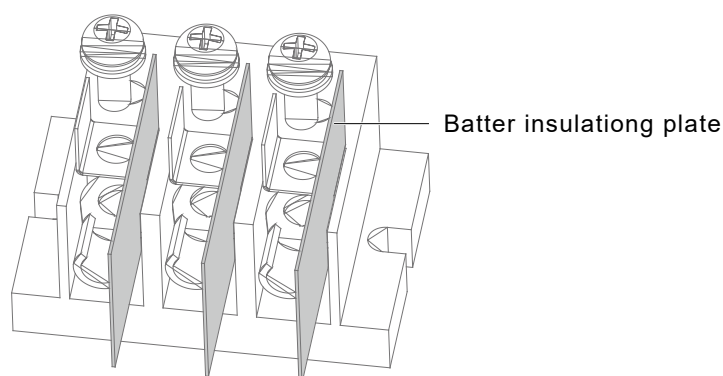

Figure 2-15 Installing battery insulating plates
1. First crimp the user external cable on the battery terminals, Figure 2-15 shows the OT terminals.